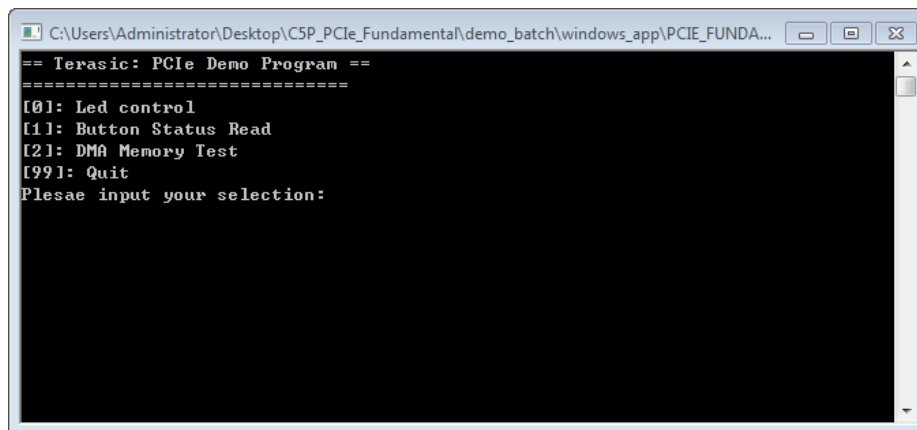

Figure 7-10 Screenshot of Program Menu
6. Goto windows_app folder, execute PCIE_FUNDAMENTAL.exe. A menu will appear as shown in **Figure 7-10**.